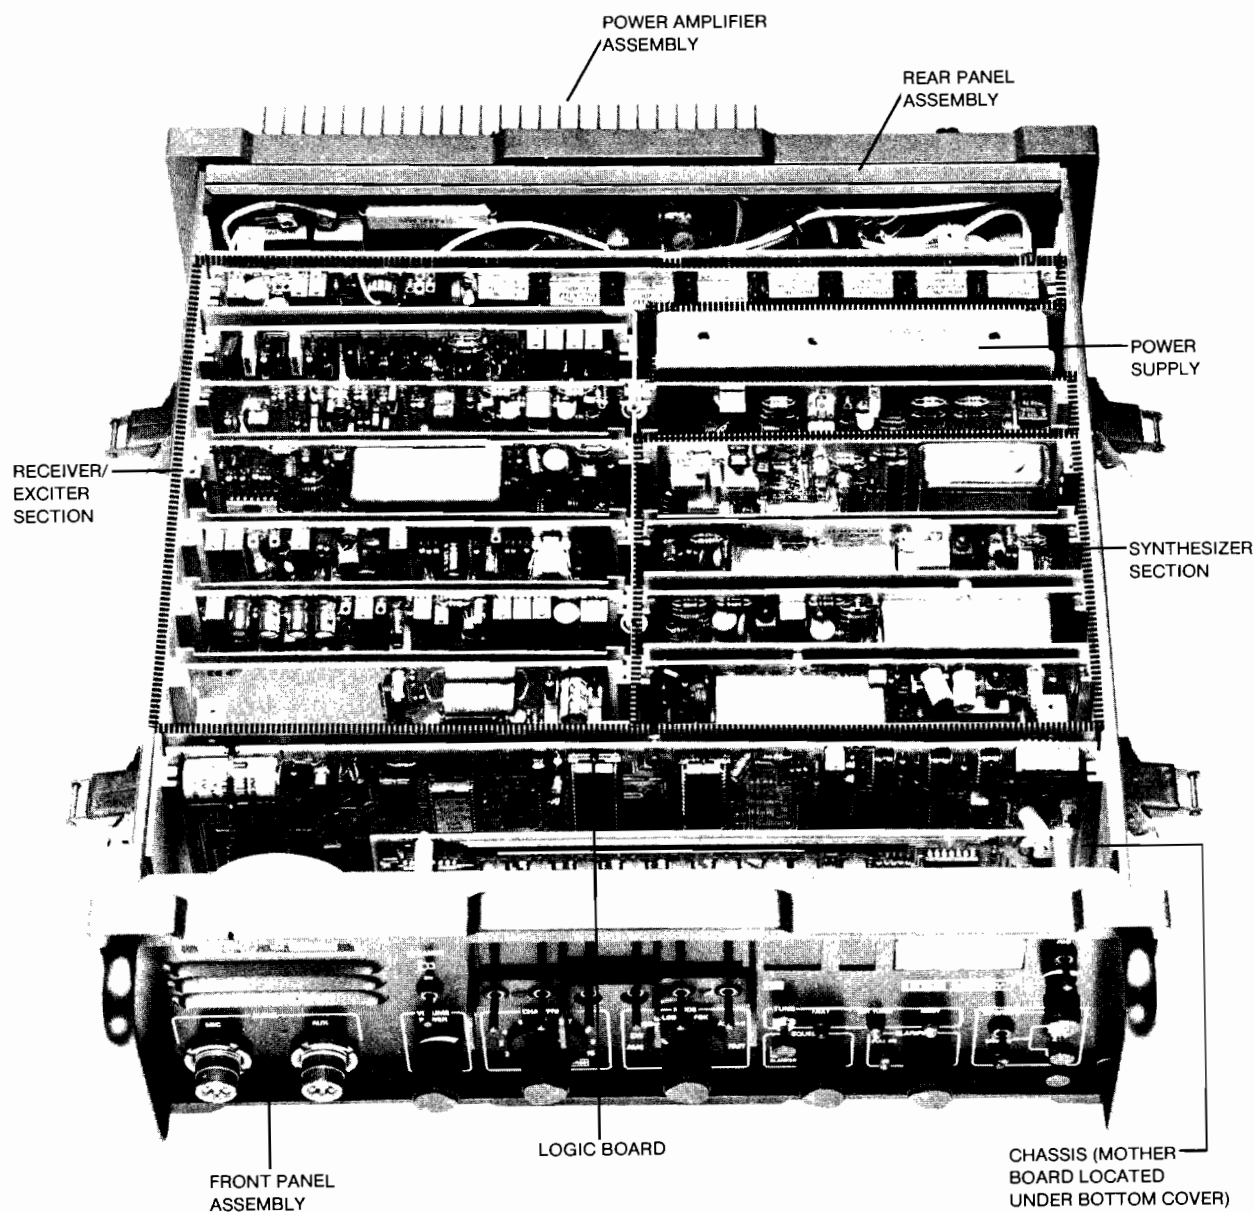

Figure 1.1 Major Subassembly Locations
scription and function of these assemblies are provided in Sections 1.2.2 through 1.2.9 and the location of these subassemblies can be found in Figure 1.1.
the receiver/exciter with the first local oscillator (LO) from the major loop board, the second LO from the translator loop board and the third LO from the reference board to the receiver/exciter. All frequencies are derived from a temperature compensated crystal oscillator (TCXO) on the reference board. The reference board also furnishes the 1 kHz side-tone used for CW. If a fault causes any of the loops to lose lock, the loss-of-lock LED will light on the appropriate board(s) and transmission and reception will be inhibited. Figure 1.1 shows the locations of the loss-of-lock LEDs and other adjustments.
The rear panel assembly is an aluminum casting which contains the PA assembly and various connectors. It attaches to the transceiver chassis with four screws and is easily removable as a unit. Figure 1.1 shows the locations of the various rear panel assemblies, connectors and fuse locations.